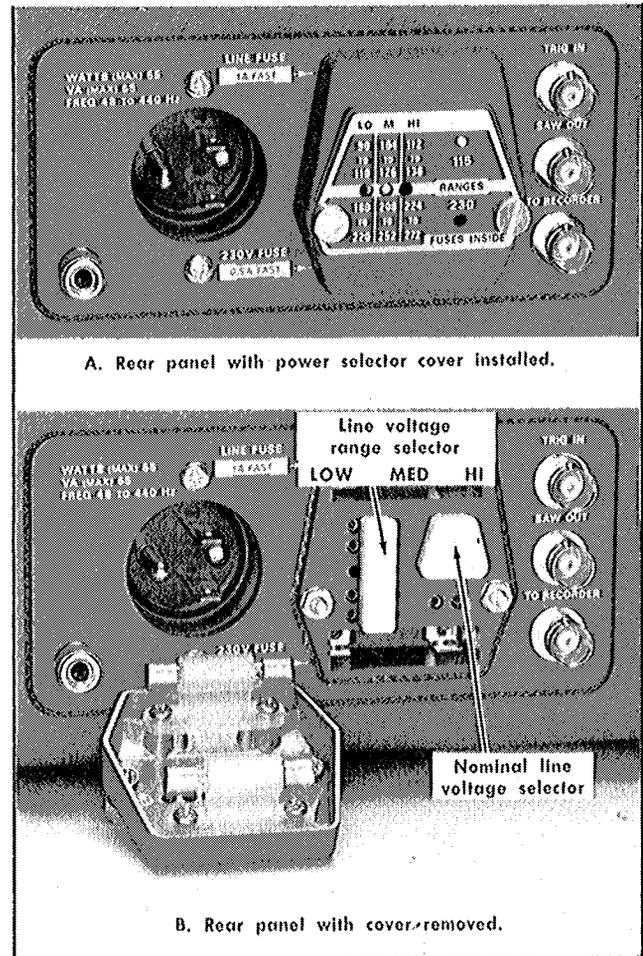

Fig. 2-3. Power panel and selectors.
fuses which are positioned correctly when the correct selection is made for either 115 or 230-volt nominal operation. Fig. 2-3 shows the power input panel on the rear of the instrument and the voltage range and nominal line voltage selectors.
3. To change the regulating range, pull out the Range Selector bar, slide it to the desired range and plug it into the correct position. Select a range which is centered about the average line voltage to be applied to the instrument. See Fig. 2-3.